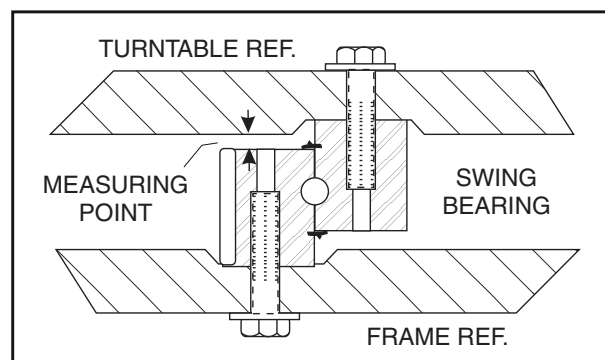
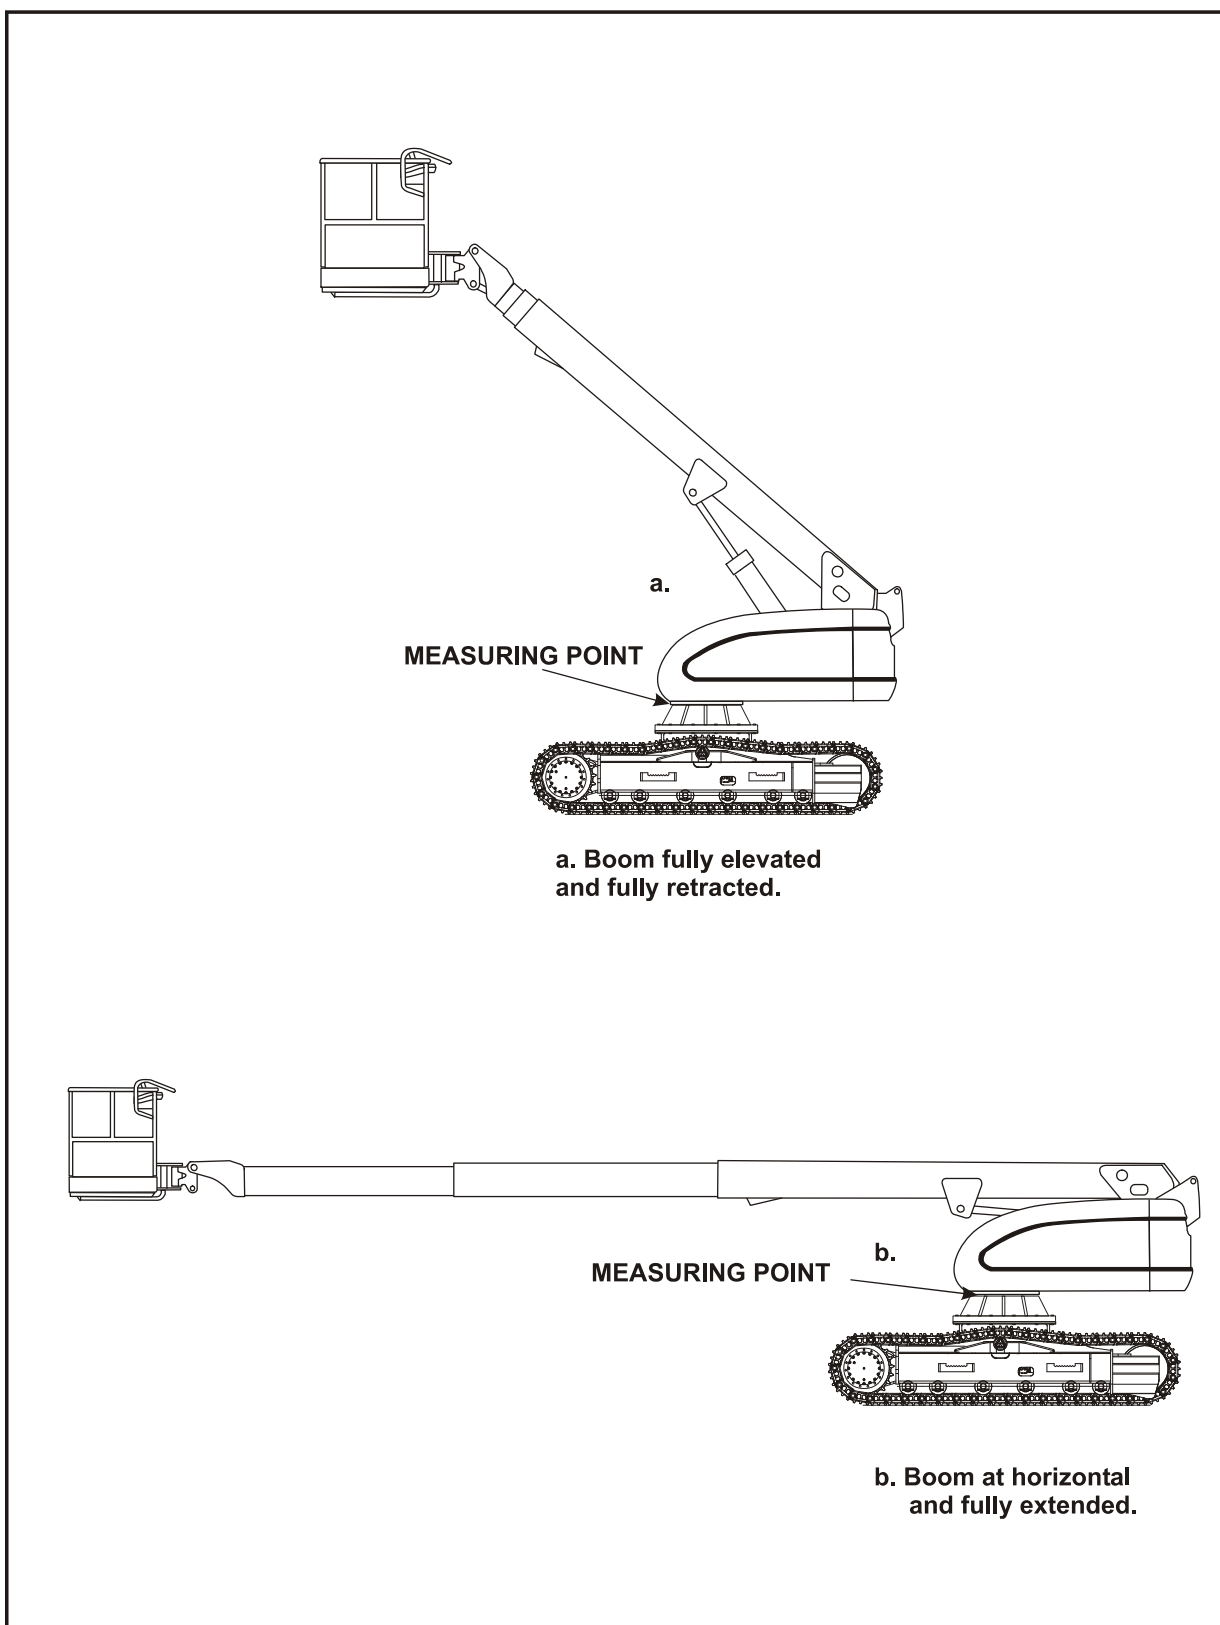

Figure 3-4. Swing Bearing Tolerance Measuring Point
Figure 3-5. Swing Bearing Tolerance Boom Placement
1. From the underside of the machine, at rear center, with the boom fully elevated and fully retracted, as shown in A, Figure 3-5., Swing Bearing Tolerance Boom Placement, using a magnetic base dial indicator, measure and record the distance between the swing bearing and turntable. (See Figure 3-4., Swing Bearing Tolerance Measuring Point.)
2. At the same point, with the boom at horizontal and fully extended, and the tower boom fully elevated as shown in (Figure 3-5., Swing Bearing Tolerance Boom Placement) B, using a magnetic base dial indicator, measure and record the distance between the swing bearing and turntable. (See Figure 3-4., Swing Bearing Tolerance Measuring Point.)